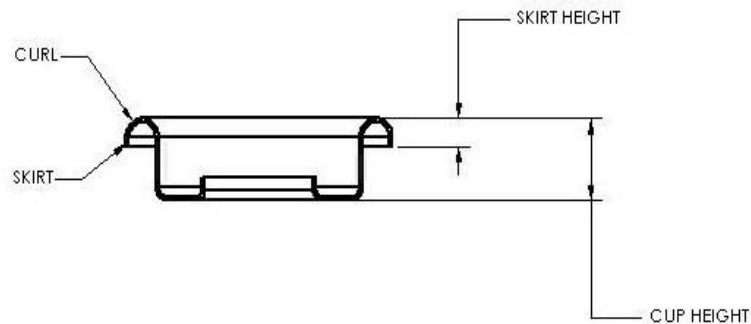

Figure 6 – Mounting Cup Cross Section
1. **Cup Curl:** The area of the mounting cup that mates with the can’s curl. The cup’s curl is also the location of the lathe cut gasket or sleeve gasket (these items will be discussed later) (see Figure 6).
2. **Cup Skirt:** The area of the mounting cup that fits over and captures the can curl. This is the area of the valve where some overcaps are attached (see Figure 6).
3. **Skirt Height:** The dimension from the bottom of the cup skirt to the top of the cup curl (see Figure 6).
4. **Cup Height:** The dimension from the bottom of the mounting cup to the top of the cup curl (see Figure 6).